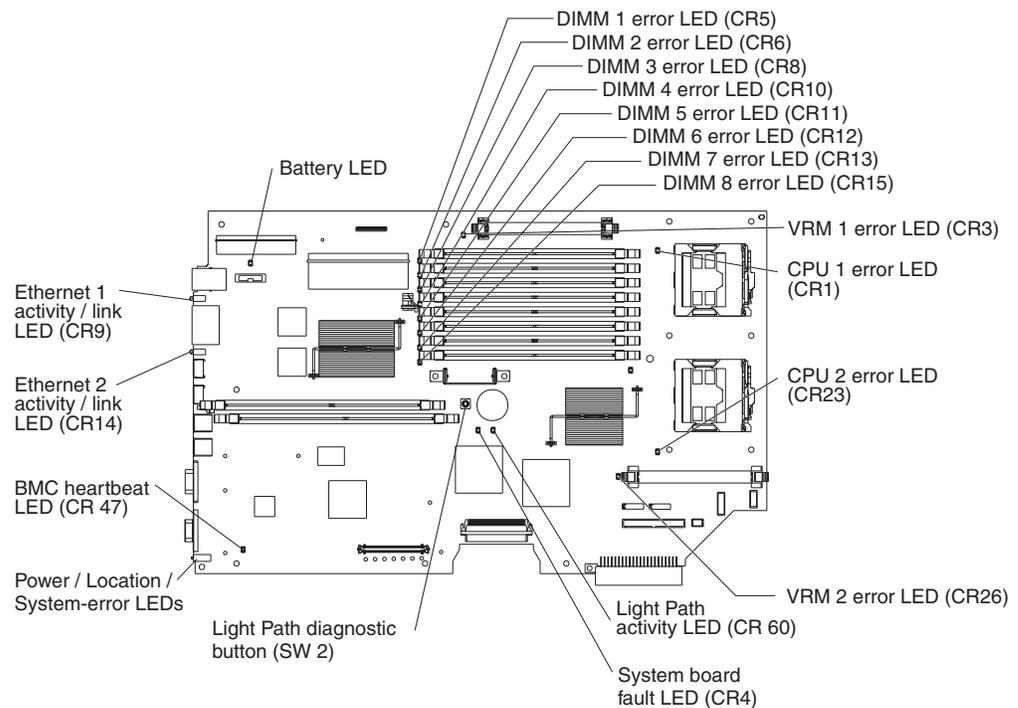

Figure 59. System-board LEDs
Many errors are first indicated by the illumination of the system-error light in the operator information panel on the front of the server (see “Server controls and LEDs” on page 6). If the system-error light is lit, one or more lights inside the server (see Figure 59) might also be lit that can direct you to the source of the error.
4. If the lit LED on the light path diagnostics panel refers to a specific internal component as indicated in step 3, look inside the server to check the lit LEDs on the system board (see Figure 59 on page 73). For example, a microprocessor error will light the LED next to the failing microprocessor.
If the BMC code in the server becomes damaged, the server might have difficulty restarting (rebooting). If the server does not turn on and the heartbeat LED (CR 47; see Figure 59 on page 73) is not on, you will need to force a BMC update.